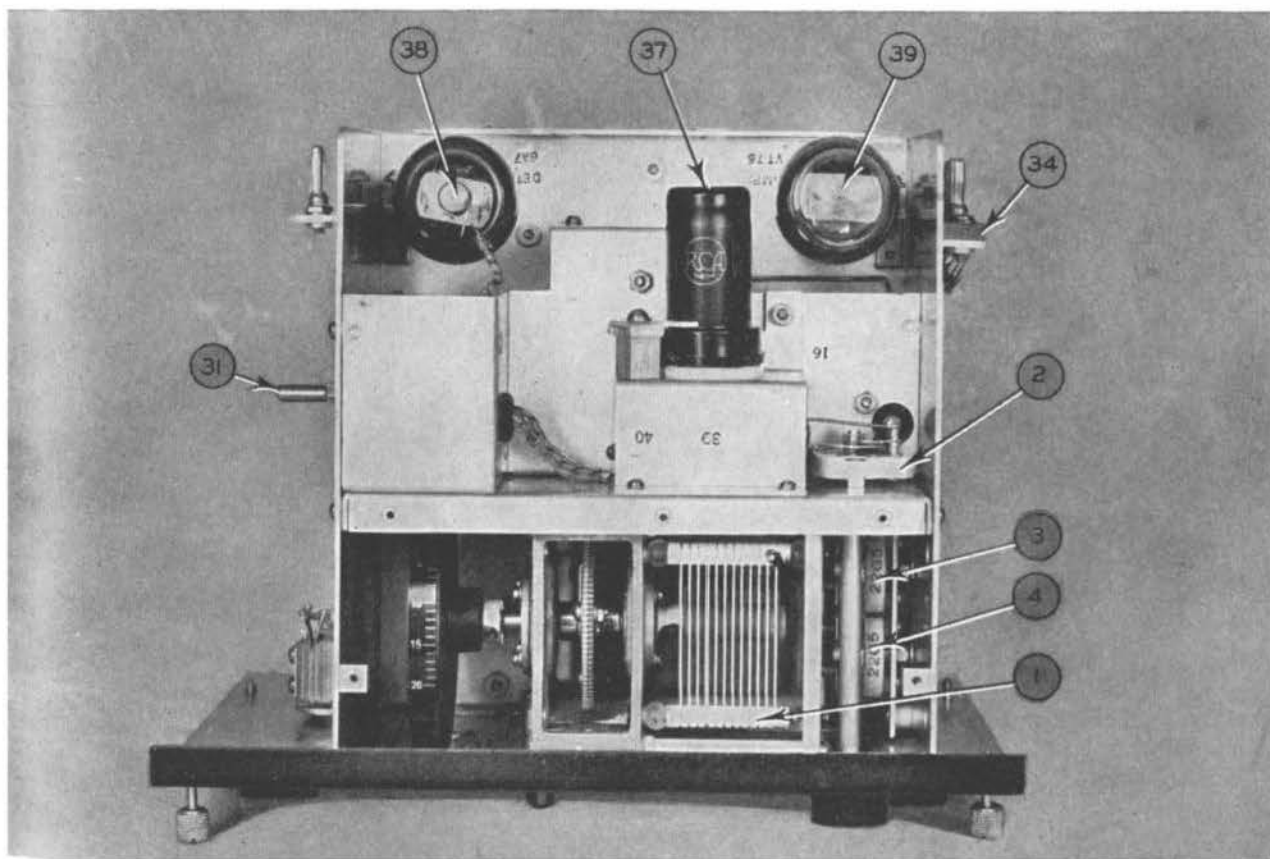
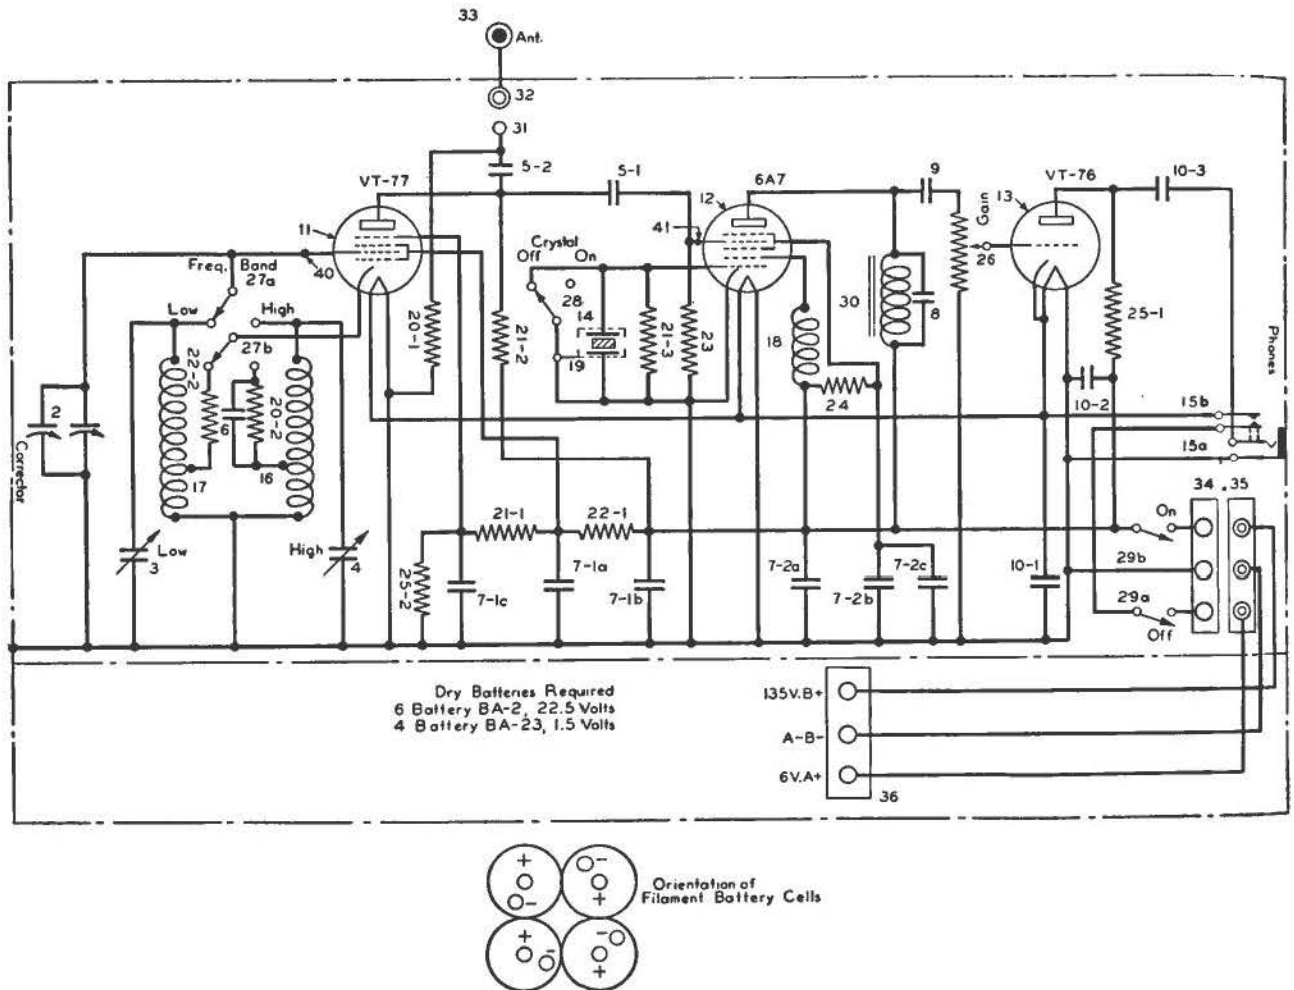

Figure 135. Frequency Meter BC-221-D, Chassis, Top View with Capacitor Shield Removed
Figure 139. Frequency Meter BC-221-D, Schematic Diagram
mental range of 125 to 250 KC is employed; which, by calibrating the 1st, 2nd, 4th, and part of the 8th harmonics, gives continuous coverage throughout the range from 2000 to 20,000 KC. The two inductors (16) and (17) (See Figures 139 and 140), in the tuned circuits, are wound on ceramic forms and thoroughly sealed against moisture. Tuning over both fundamental ranges is accomplished by a single variable capacitor (1), having a low temperature coefficient, augmented by the variable corrector capacitor (2), and the adjustable low and high frequency trimmer capacitors (3) and (4) respectively, all shown on Figures 135 and 139. The main tuning capacitor (1) is capable of continuous rotation in either direction and the dial assembly includes a 100/1 ratio worm gear drive mechanism so that 50 revolutions of the vernier dial are required for 180° rotation of the main scale (on the capacitor shaft). The main, or DIAL HUNDREDS scale is engraved with 50 divisions over its useful 180° sector; and the vernier is marked with 100 DIAL UNITS division over the entire 360°. The arrangement thus provides 5000 effective readable divisions of which the calibrated ranges occupy approximately the portion between 250 and 4750 (See Figure 142). Backlash in the gear mechanism has been reduced to less than one-half of one division on the vernier scale, and a dial lock is provided to prevent any accidental movement of the dial after the desired setting has been obtained.
4. The heterodyne oscillator circuits are calibrated from the crystal at a temperature of plus 20° C, and the dial settings of the successive harmonics (crystal check points) are noted along the calibration. The temperature coefficient of each range of the heterodyne oscillator, expressed in percentage of frequency, is less than 0.002 per cent per degree C, as measured over a range of 80° C. The corrector capacitor (2), which is connected in parallel with (1), makes it possible to reset the heterodyne oscillator to agreement with the crystal calibration at any harmonic for any ambient temperature
5. It was previously stated that the three inner elements of the type 6A7 tube are used in the crystal oscillator circuit. The remaining elements of this tube (comprising the control grid, screen grid and plate) are used as a high gain screen grid detector, to which, by structure, the crystal oscillator is electronically coupled. The R-F voltage developed across the load resistor 21-2 in the plate output circuit of the electron coupled heterodyne oscillator is coupled to the control grid of this detector through a small fixed capacitor 5-1 (See Figure 139). The antenna plug (31) mounted on the chassis, is also coupled to the control grid of the detector, through the coupling capacitor 5-2 (in series with 5-1). As a result of these three coupling means, and
8. It was previously stated that the antenna plug (31) is coupled to the control grid of the detector through capacitors 5-2 and 5-1 respectively, in series. By further reference to Figure 139 and 140, it will be seen that the antenna plug (31) is also coupled directly to the heterodyne oscillator output through capacitor 5-2 alone. Thus, the antenna post (33) serves the dual purpose of a detector input terminal for the measurement of frequencies of external